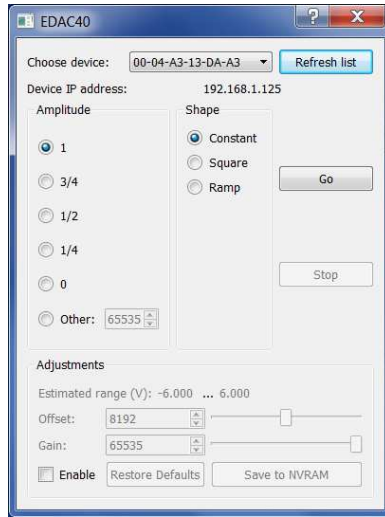

Figure 4: edac40gui – An application for test and adjustments
- Run edac40gui program (provided on software CD). The connected device MAC address appears in the combo box in the upper part of the application window (Fig 4). If there are multiple EDAC40 devices in the network, the one under testing should be selected from the drop-down list. The application provides controls to set either desired constant level to all output channels or generate square wave or saw-like signal. Internal gain and offset settings can be programmed and finally stored into non-volatile memory (NVRAM).
- Choose amplitude “1” (full scale), shape — “square” and press “Go”. Square-shaped wave signal should appear on the screen of the scope. Low and high levels correspond to minimum (0) and maximum (65536) DAC codes.